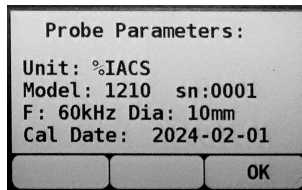

Figure 5: Meter screen showing connected probe parameters
1. Turn on: if the equipment is off, press “( I )”. The meter model and serial number will appear on the display. Press any key to continue. The equipment will then scan and find a connected probe. The display will then show the probe model, serial number, frequency, diameter and calibration date, as shown in Figure 5 below. Press OK to continue. If no probe is connected the display will show "PROBE DISCONNECTED".